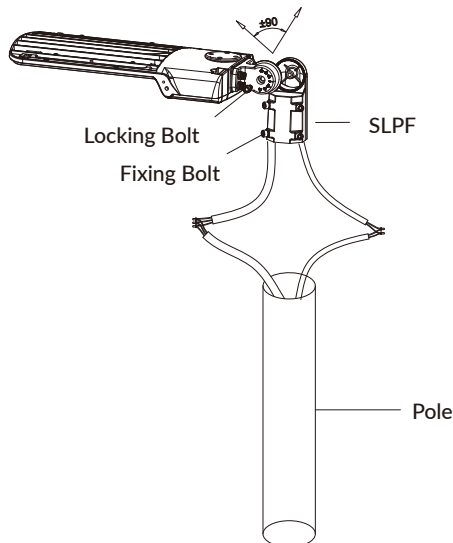

Figure 3
- Make Appropriate wiring according to the "General Wiring Diagram" and tuck all the wires in the pole (Figure 3).